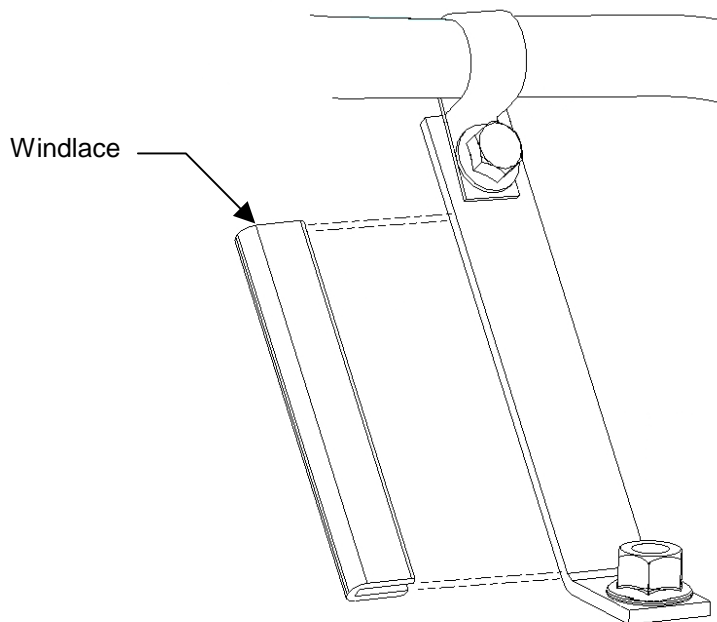

Figure 3
2. Install the windlace as shown in Figure 3.